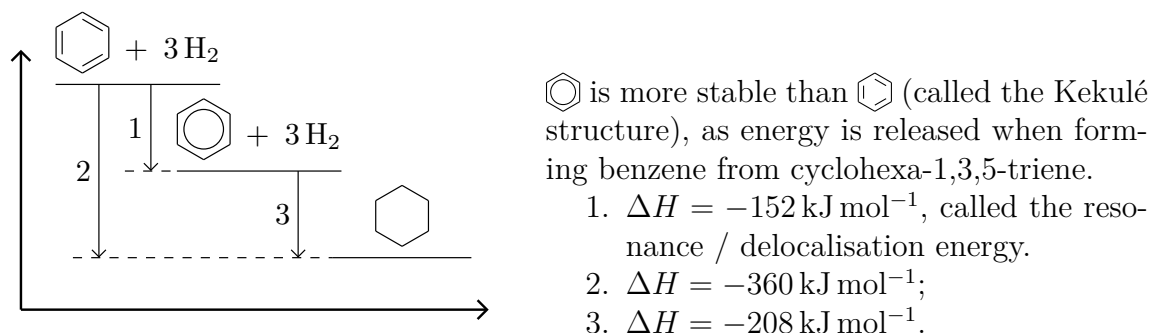

Figure 25.1: Enthalpy changes of hydrogenation of the Kekulé structure and modern benzene structure to cyclohexane
- Enthalpy changes of hydrogenation (See Figure 25.1)